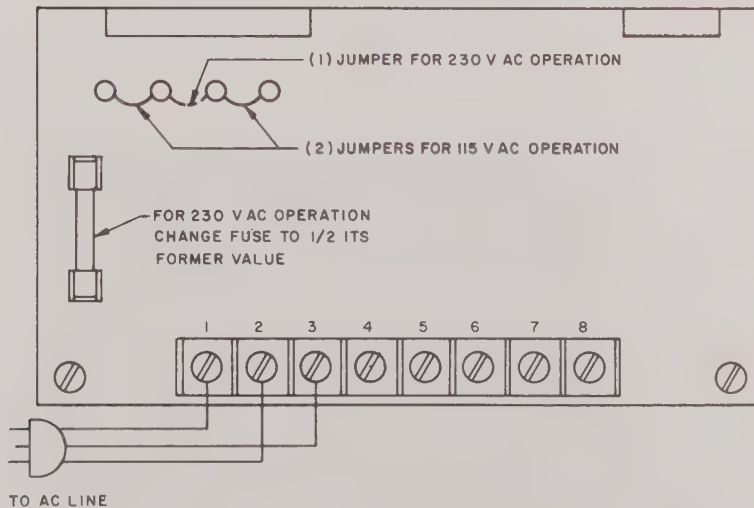

FIG. 2-2 CONVERSION TO 230V AC OPERATION
- 2-6 This power supply is normally shipped for operation on a nominal 115V AC line, single phase. If 230V AC operation is desired, the transformer primary link connections must be changed as shown in FIG. 2-2.